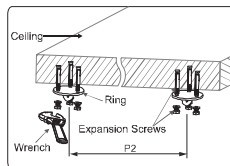

Figure 2
2. Fix the rings (not accessories) on the ceiling according to the distance P2 between two hanging pieces of brake mechanism (note: make sure each of rings can endure at least 200kg) (figure 2).